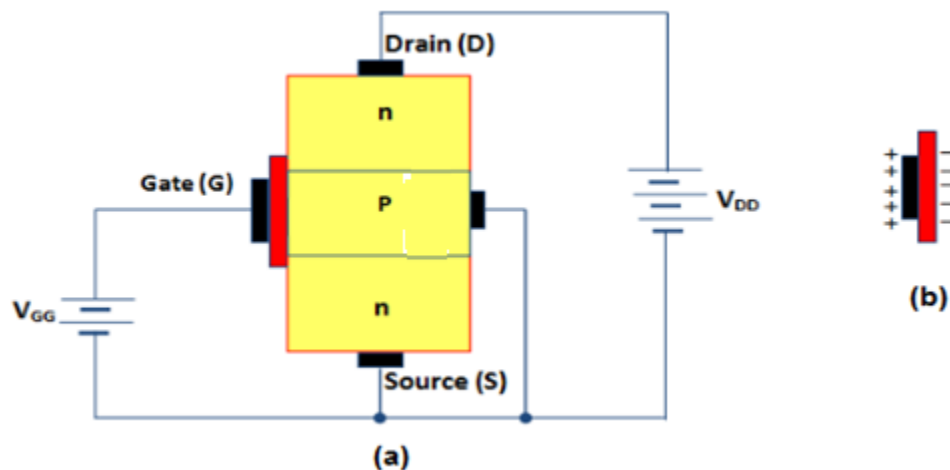

Fig. 4.23 (a) Operation of n-channel E-MOSFET (b) Capacitor
- Fig. 4.23 (a) shows the circuit of operation of n-channel E-MOSFET.
- Again the gate acts like a capacitor. Since the gate is positive, it induces negative charges in the n-channel as shown in fig. 4.23 (b).
- When $V_{GS} = 0V$, as shown in fig. 4.23 (a), there is no channel connecting source and drain.
- When V_{GS} is positive, i.e. gate is made positive as shown in fig. 4.23 (b), it attracts free electrons into the p region. The free electrons combine with the holes next to the SiO_2 layer.